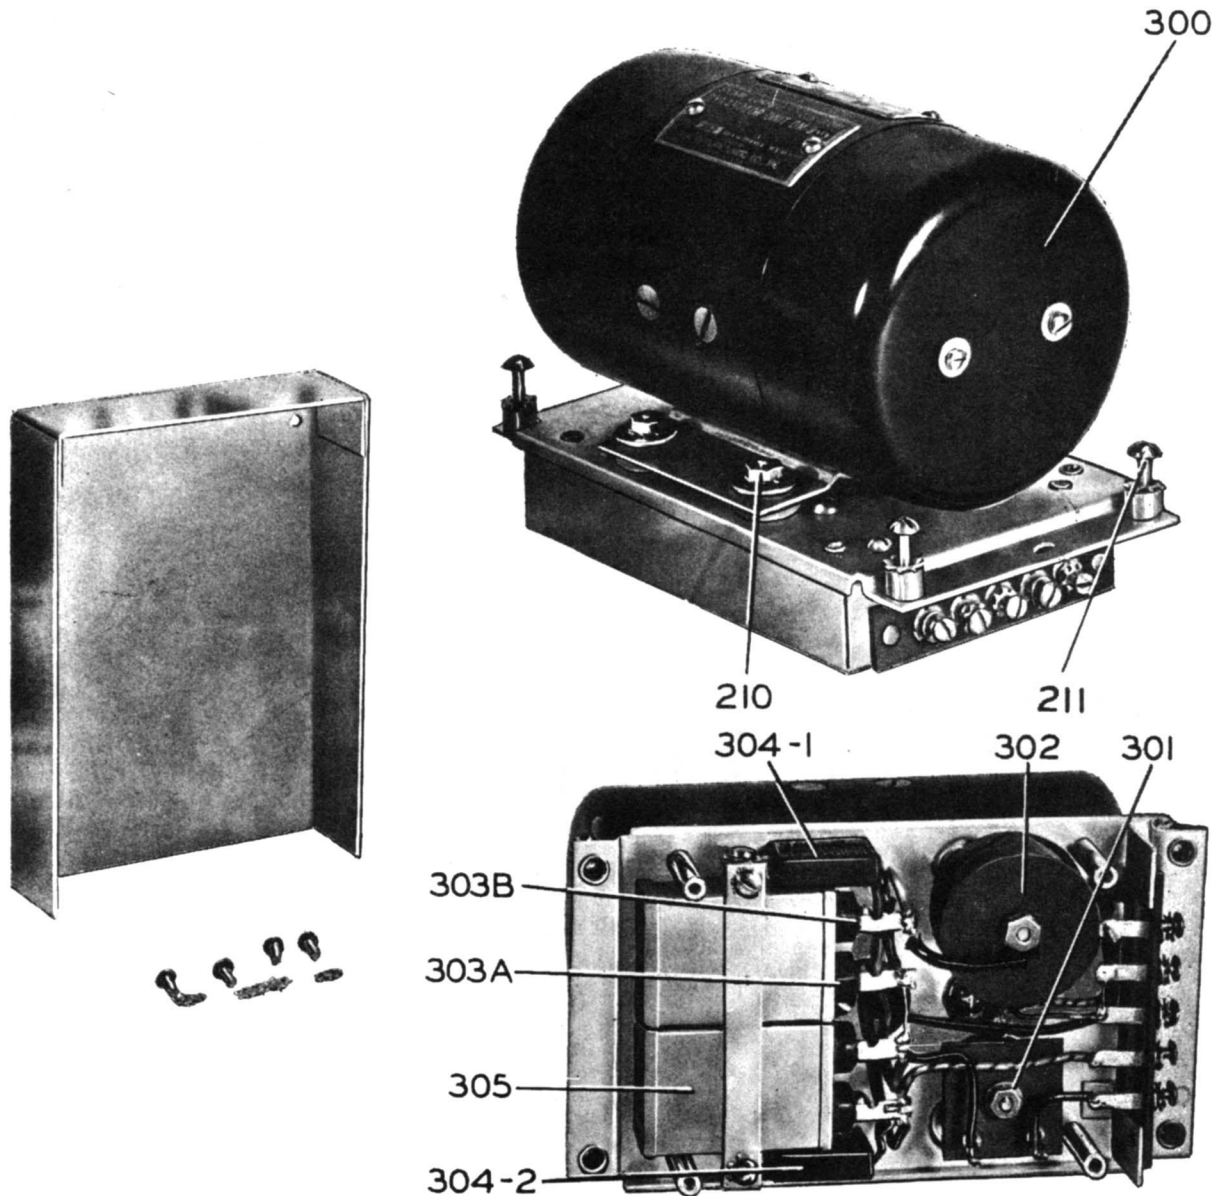

FIGURE 18—DYNAMOTOR DM-24-B AND VIEW SHOWING FILTER OPEN
- Loosen the four captive screws 211, Figure 18, which hold the dynamotor unit to the chassis.
The filter portion of the dynamotor unit is made accessible by the removal of the cover at the bottom. See Figure 18.